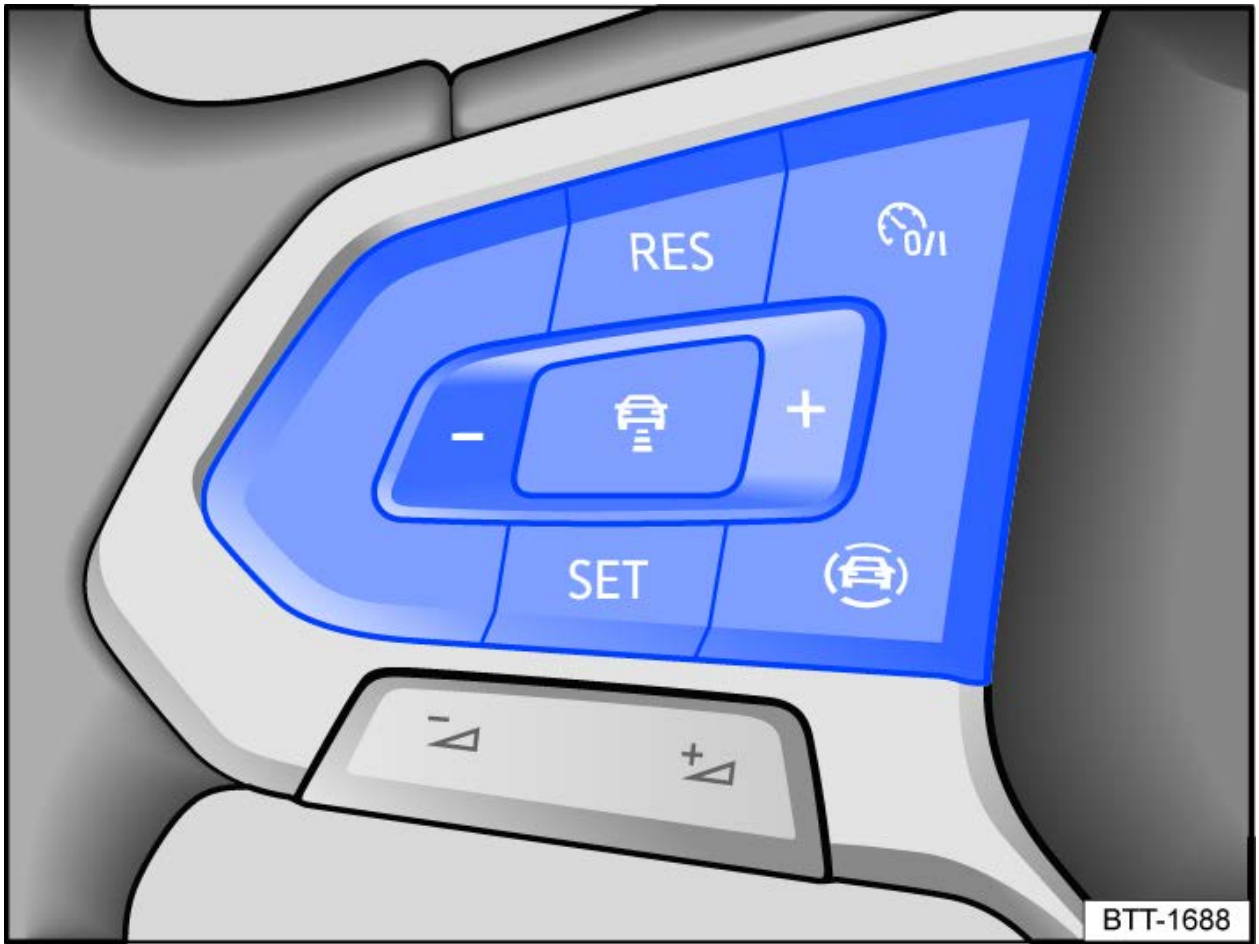

Fig. 1 Left side of the multi-function steering wheel: buttons for ACC operation (variant 1).
The radar sensor only measures straight ahead. Therefore, on tight curves, vehicles may be detected by mistake or vehicles driving ahead may not be detected → fig. 1 **A**.
- If there are vehicles that are driving close to your vehicle but outside the sensor range, such as motorcycles → fig. 1 **B**.